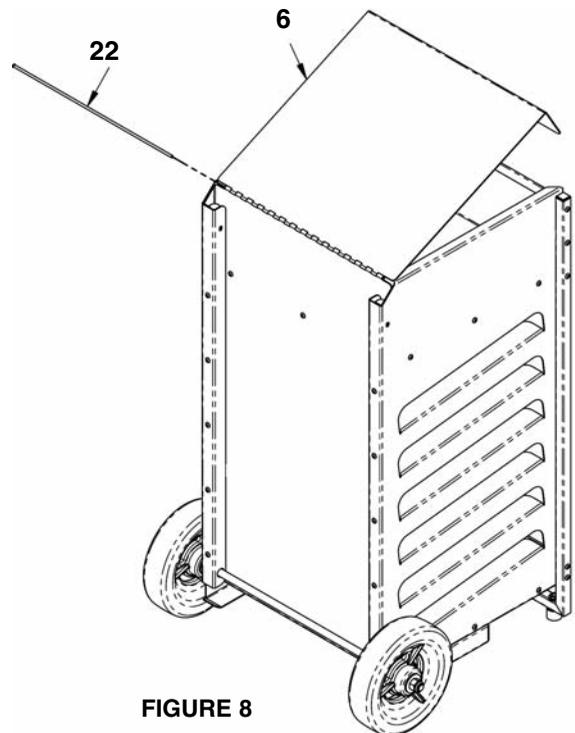

FIGURE 8
8. Remove the hinge pin (#22) from the lid (#6). Turn the cart upright and align the lid onto the top of the cart. As shown in figure 8. Attach the lid to the rear panel by driving in the hinge pin.